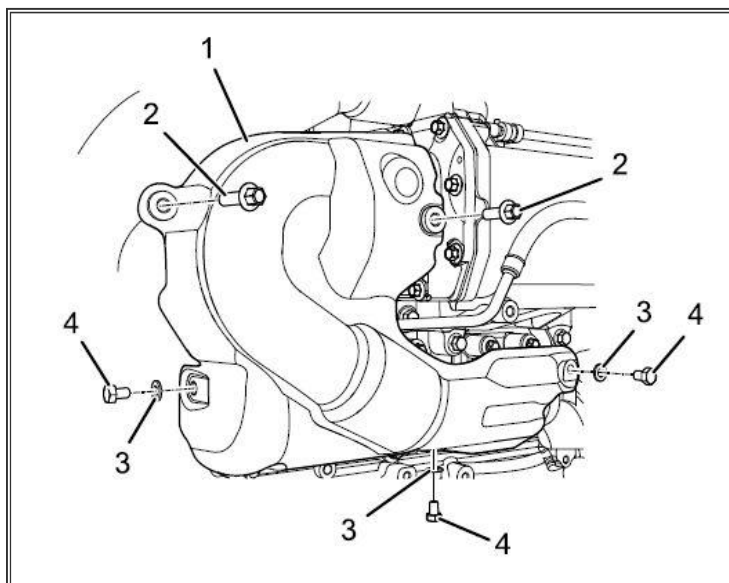

Figure 1: Heat Shield (Cylinders 4 - 6)
7. Remove heat shield (cylinders 4 - 6) (**Figure 1**, Item 1).